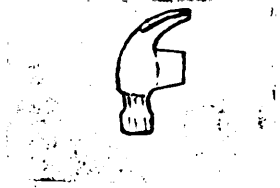

Figure 2.
2. Remember that the hammer is made of high carbon steel, therefore, heat according to the metal you are working with. Heat to cherry red or dark lemon color and shape as shown in(Figure 2).